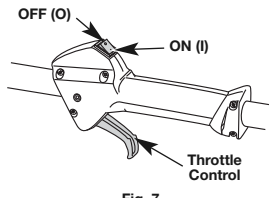

Fig. 7
- NOTE:** There is no need to turn the unit on. The On/Off Control is in the ON (1) position at all times (Fig. 7).